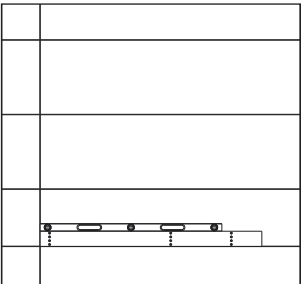

Figure 7: Place Tube
7. Place the marked-up bottom tube on the wall so the bottom horizontal line aligns with the bottom of the tube, the vertical line aligns with its respective edge, and "TL" is in the top-left corner. Refer to **Figure 7**. Use a level (digital is recommended) to fine-tune the tube position, which has a ±1/4" tolerance in all directions.